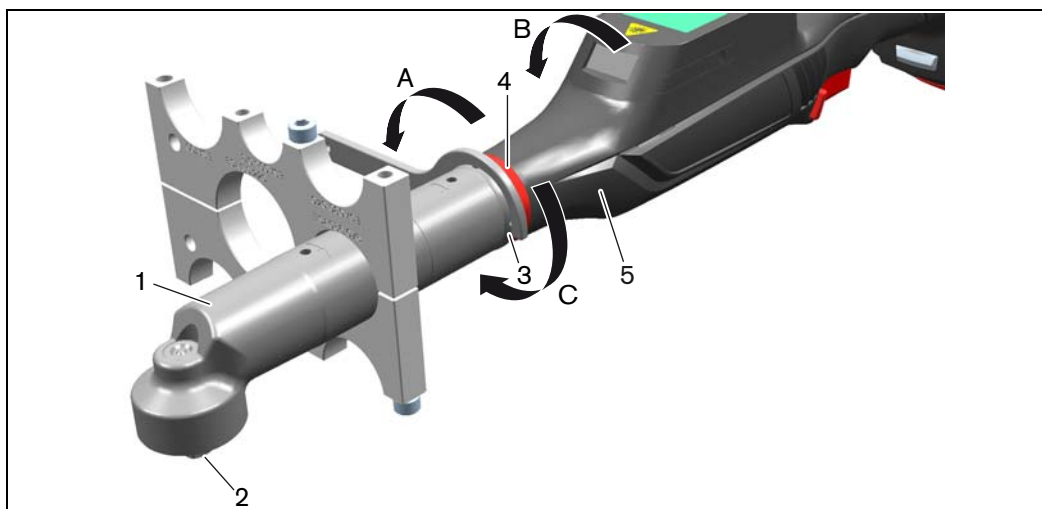

Fig. 4-3: Removing and adjusting the angle head
3. Hook the hook spanner into an opening of the counter nut and rotate it in the direction of arrow A (left hand thread) to loosen the counter nut 3 (see figure 4-3).
4. Rotate the nutrunner 5 in the direction of arrow B until you have reached the desired working angle, however not more than once by 360° (see figure 4-3).